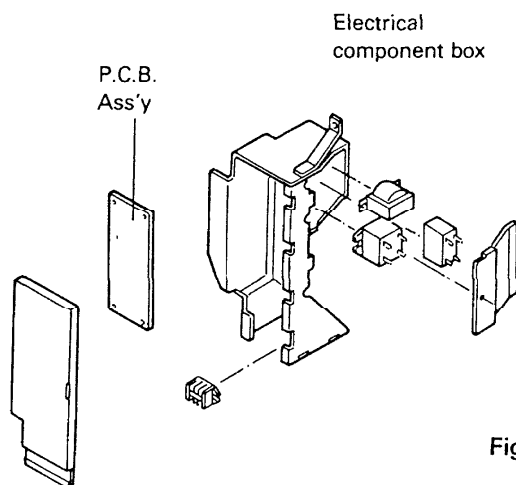

Fig. 3
- 2) Pull the P.C.B. Ass'y. Fig. 3